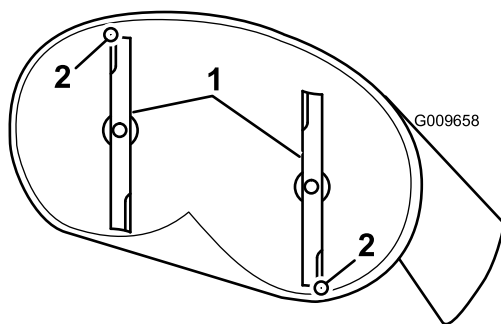
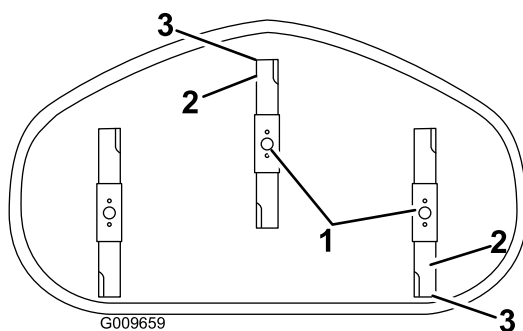

Figure 53
Figure 54
4. Carefully rotate the blades so they are facing front to rear (Figure 53 and Figure 54).
5. Measure from the tip of the front blade to the flat surface and the tip of the rear blade to the flat surface (Figure 53 and Figure 54).
Note: Continue adjusting the nut until the front blade tip is 1.6 to 7.9 mm (1/16 to 5/16 inch) lower than the rear blade tip (Figure 53 and Figure 54).